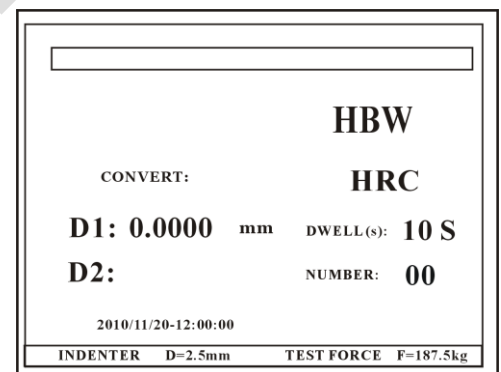

Fig. 7-2
- 6.3 Press Up-Down key, select "SCALES" and Press OK, displays Brinell, Rockwell and Vickers hardness scales, then select Brinell scale and outside light. (Fig.7-2) .